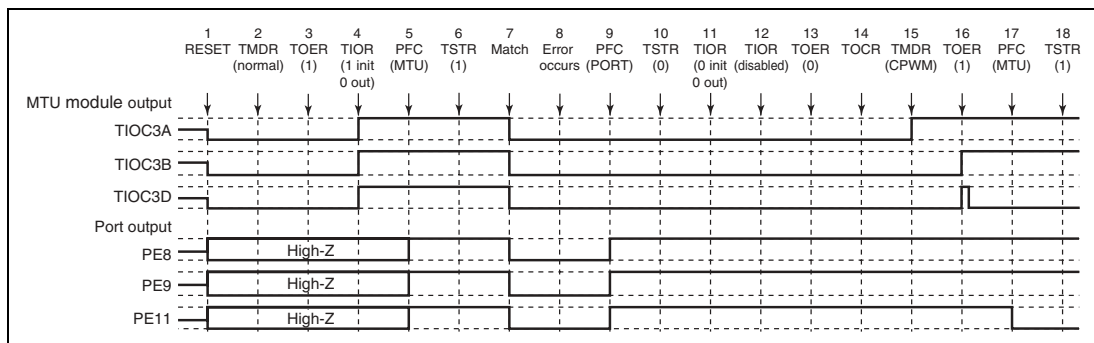

**Figure 11.90 Error Occurrence in Normal Mode, Recovery in Reset-Synchronous PWM Mode**
**Operation when Error Occurs during Normal Mode Operation, and Operation is Restarted in Reset-Synchronous PWM Mode:** Figure 11.90 shows an explanatory diagram of the case where an error occurs in normal mode and operation is restarted in reset-synchronous PWM mode after re-setting.